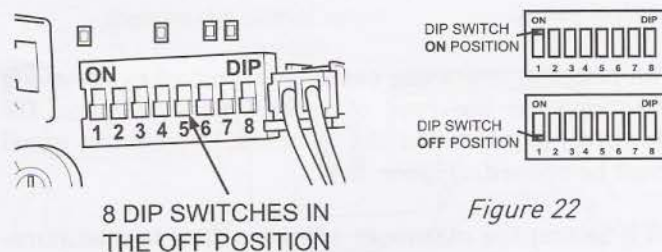

Figure 22
**15.4 Setting the 45 seconds delay:** The boiler is factory set to exclude the delay of 45 seconds before re-ignition between the closing of a hot water tap and CH start-up. This delay can be set to 45 seconds by setting dip switch '3' (Figure 22) into the OFF position.
**15.5 255 seconds delay setting:** The boiler is capable of up to 255 seconds ignition delay (anti cycling time) before re-ignition following burner shut down on the primary hydraulic water reaching its set temperature. This delay can be increased up to a maximum of 255 seconds by turning potentiometer P5 (Figure 22) clockwise.
**15.6 Pump working mode setting:** The boiler is factory set to operate the pump for a period of 45sec before and after a heating cycle. This delay can be cancelled by setting dipswitch '2' (Figure 22) to the ON position. However, this is not recommended as the boiler over-heat thermostat may trip out, causing lock-out of the boiler.
**15.7 Setting the Heating output:** The B24 boiler is factory set to give mid range central heating output. The maximum and minimum heat output for heating and domestic hot water may be adjusted, if required, using potentiometers P2 (Figure 22).